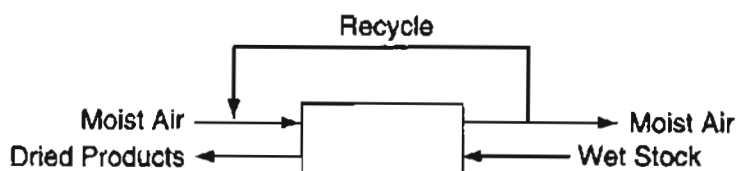

Figure P18.25
- ✓**18.25 To insure a slow rate of drying and thereby prevent checking of the dried product, an inlet relative humidity of 70% at 75°F is specified for the moist air entering the dryer. Outside air is mixed with recycled air from the dryer exit. The air leaving the dryer has a relative humidity of 95% at 70°F. If the outside air has a dewpoint of 40°F, what fraction of the air entering the dryer must come from the outside air and what fraction must come from the recycled air from the dryer exit to provide the desired moisture content in the air fed to the dryer? See Figure P18.25.